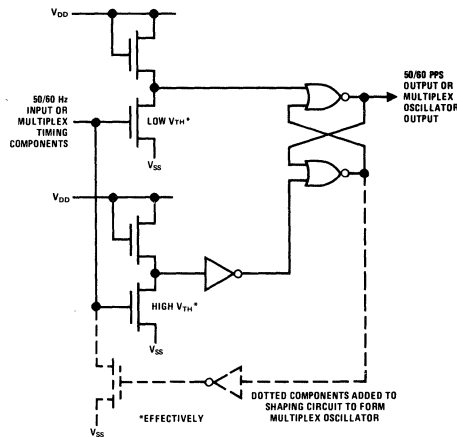
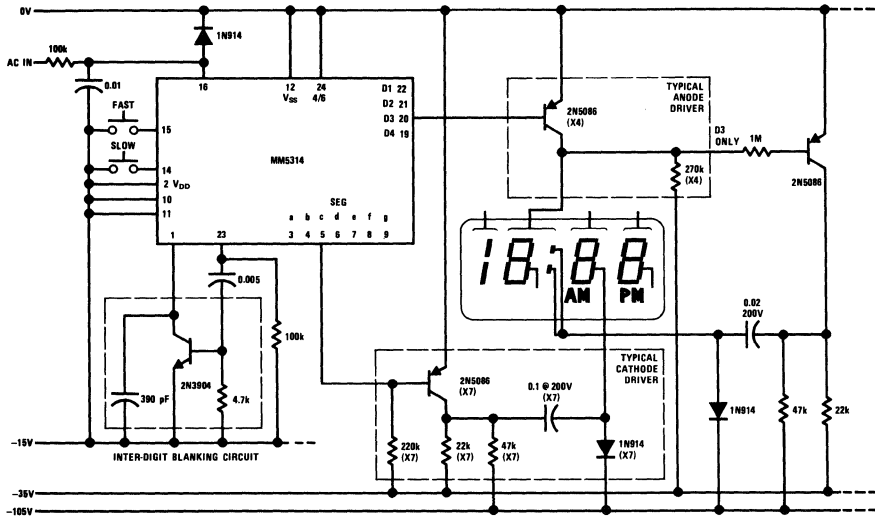

FIGURE 2. 50/60 Hz Shaping Circuit/Multiplex Oscillator
FIGURE 10. MM5314AN Driving Gas-Discharge Display, Typical Application
**50 or 60 Hz Input:** This input is applied to a Schmitt trigger shaping circuit which provides approximately five volts of hysteresis and allows using a filtered sinewave input. A simple RC filter such as shown in Figure 10 should be used to remove possible line voltage transients that could either cause the clock to gain time or damage the device. The input should swing between  $V_{SS}$  and  $V_{DD}$ . The shaper output drives a counter chain which performs the time keeping function.
**Multiplex Timing Input:** The multiplex oscillator is shown in Figure 2. Adding an external resistor and capacitor to this circuit via the multiplex timing input (as shown in Figure 10) produces a relaxation oscillator. The waveform at this input is a quasi-sawtooth that is squared by the shaping action of the schmitt trigger in Figure 2. Figure 3 provides guidelines for selecting the external components relative to desired multiplex frequency. Figure 4 illustrates two methods of synchronizing the multiplex oscillator to an external timebase. The external RC timing components may be omitted and this input may be driven by an external timebase; the required logic levels are the same as the 50 or 60 Hz input.